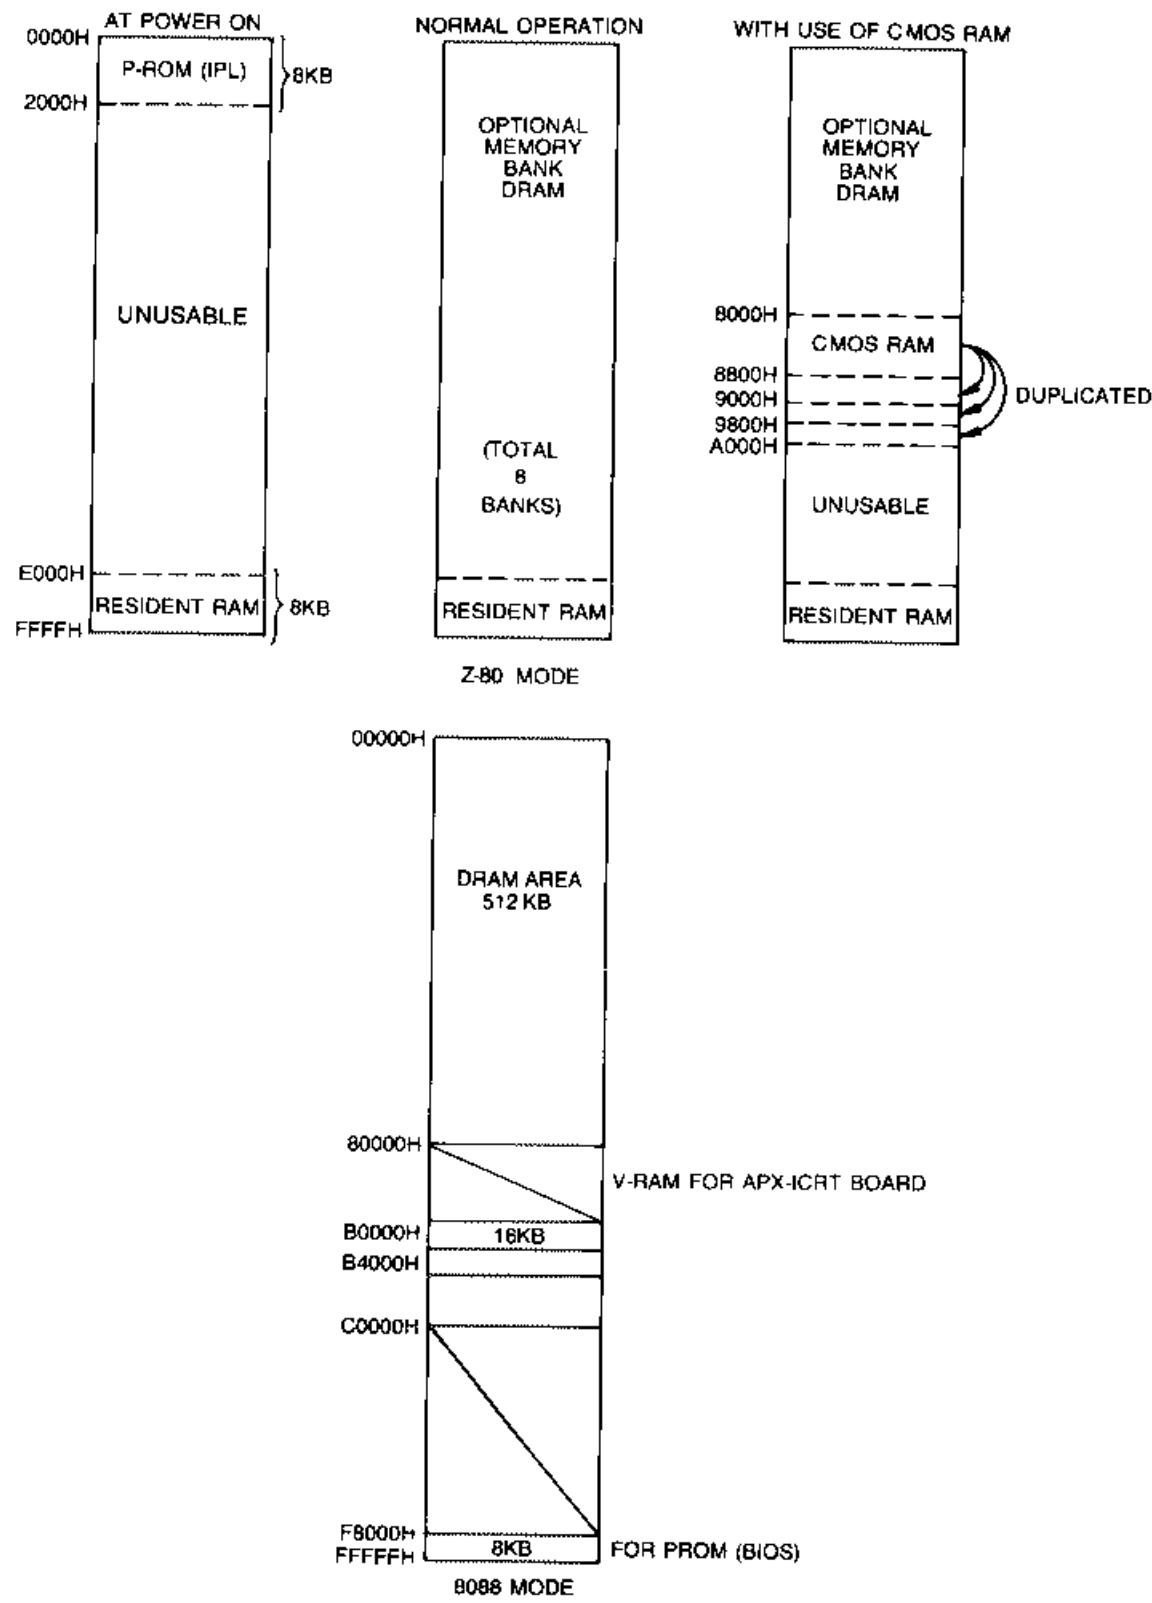

FIGURE 2-30. MEMORY MAP LAYOUT
2.3.2.1 Memory Map Layout (Figure 2-30)